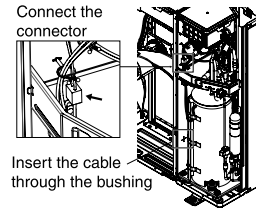

Fig. 2a
- Connect the connector from base pan heater to the white connector from the PCB. (Fig. 2a)